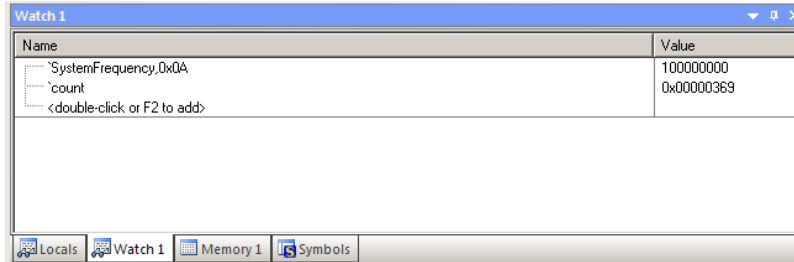

Figure 10: Watch Window
5. Double-click on the value of count and enter 0 and press Enter. See Figure 10.